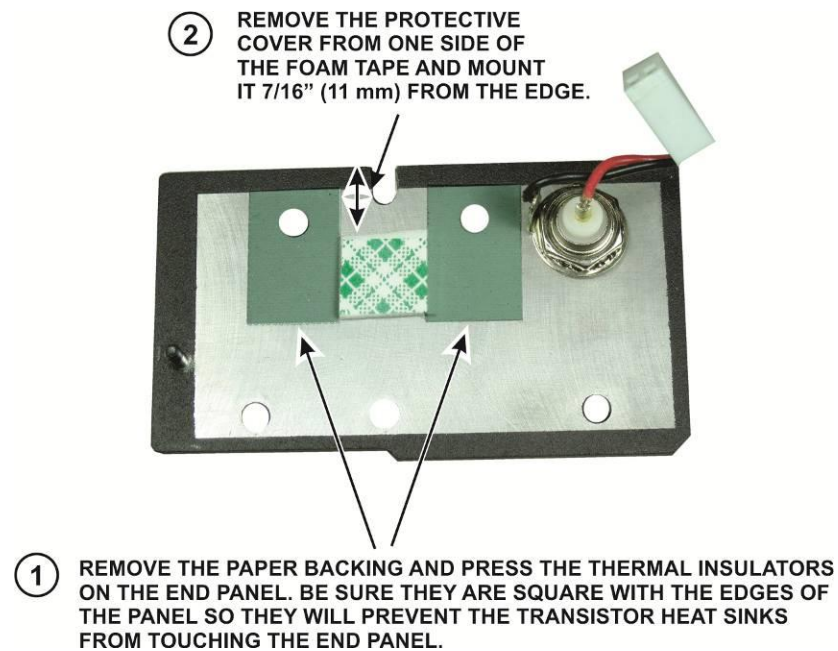

Figure 4. Mounting the Thermal Insulators and Foam Tape.
3. A small rule (see Figure 4, page 3).
- ☐ Mount the thermal insulators and foam tape on the inside surface of the end panel as shown in Figure 4. Be sure the thermal insulators are positioned as shown, with the holes directly over the screw holes in the end panel and aligned square with the edges of the panel.